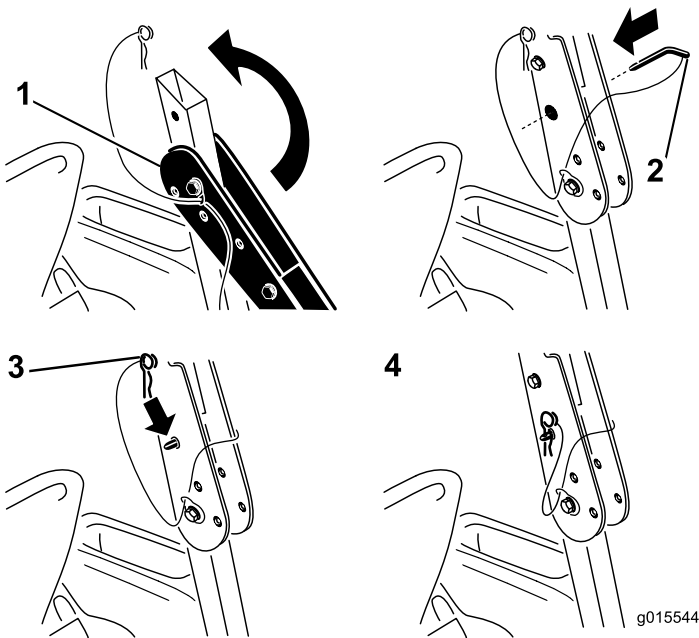

Figure 5
- 4. Raise the rollbar into the upright position and lock it in place with both pivot pins as shown in Figure 5.
5. Lock the rollbar in the upright position with the pivot pins. Use the hairpins at the end of each lanyard to secure the pivot pins (Figure 5).